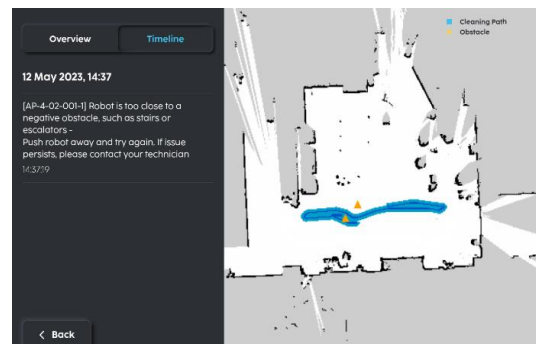

FIGURE 6-17
5. Select the 'Timeline' tab for more details (Fig. 6-17).